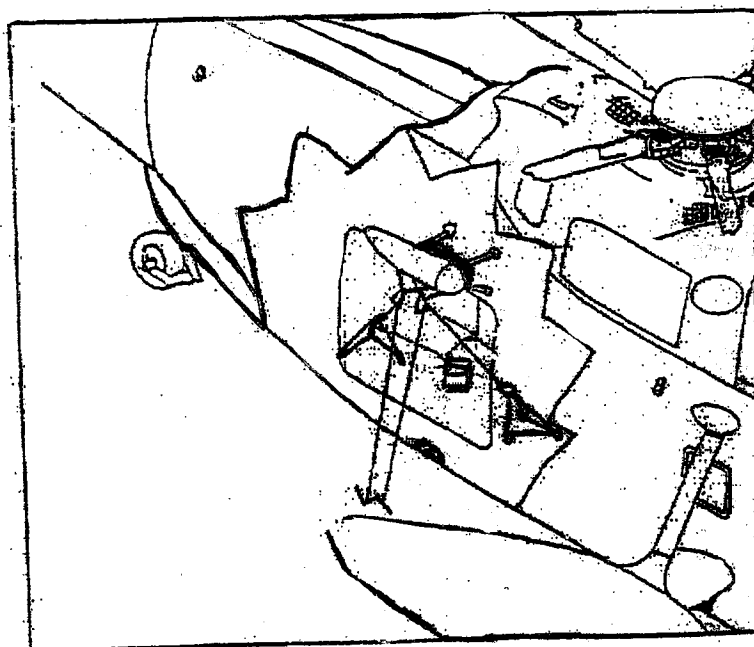
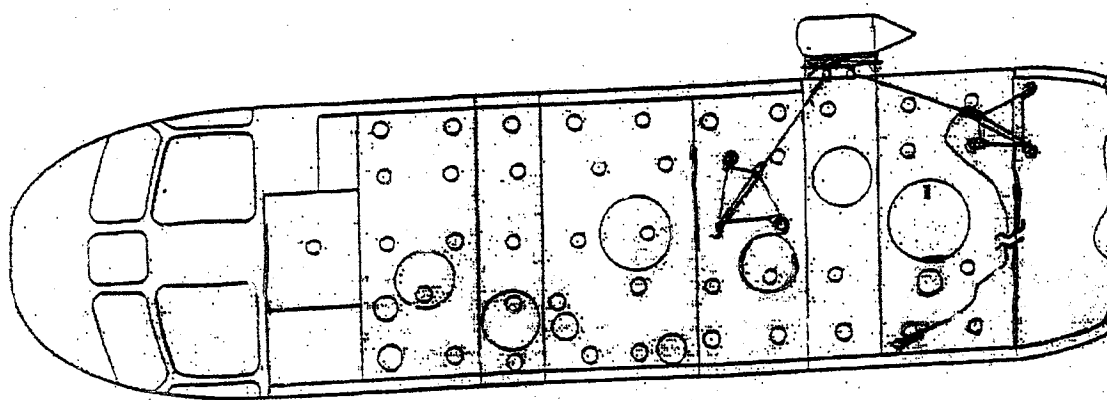

Fig. 2
Fig. 3
- (2) **Rappel Station** - Tie a self-equalizing deck setup with a 12' flat rope and attach it to the deck tie-down rings at airframe stations 292 BLO, 300 BL 18R, and 318 BL 0. The rappel rope is attached to the self-equalizing deck setup \via a carabiner\.. The rappel rope exits the aircraft through the cargo door and attaches to the fwd carabiner on the hoist rig. (See Fig 2 and Fig 3.)
- (3) **Belay Station** - Tie a self-equalizing deck setup with a 12' flat rope and attach it to the deck tie-down rings at airframe stations 370 BL 10R, 393 BL 10R, 393 BL 30R. The belay line is attached to the self-equalizing deck setup \via two carabiners with opposing gates and belay plate\.. The rope exits the aircraft through the cargo door and attaches to the aft carabiner on the hoist rig. The belay line anchor point is attached to the hard mount at station 367. (See Fig 2 and Fig 3.)